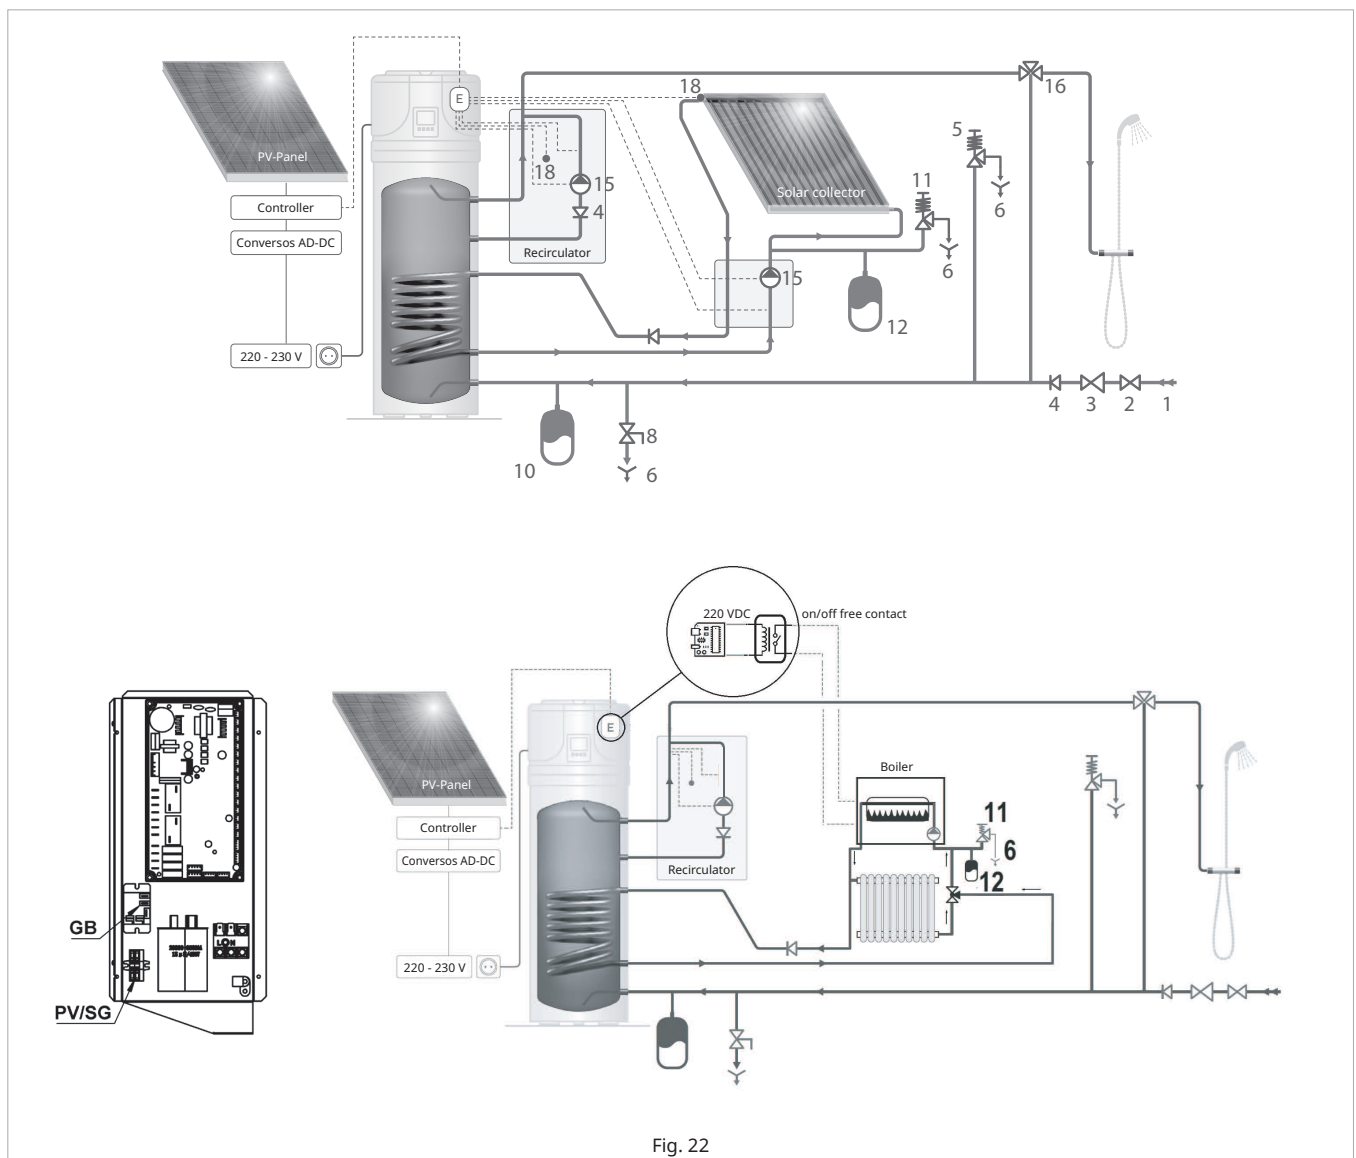

Fig. 22
- ⚠ Plastic pipes (PP) are permeable to oxygen. It is forbidden to connect the heat exchanger to system made by PP pipes as well as to open circulation system! Abusing this rule will lead to corrosion inside tube.
- ⚠ It is obligatory for the system installer to fit an 8-bar safety valve No5 on the cold water intake pipe (Fig. 22).
- ❗ The safety equipment for protection against over pressure must be operated regularly in order to remove limescale deposits and to check that it is not blocked (Fig. 22)
- ❗ The drain pipe No6, connected to the safety valve must be installed sloping continuously downwards and, in a place, where it is protected against the formation of ice (Fig. 22).
- ❗ An expansion vessel No10 (Fig.22) should be installed in order to absorb water expansion due to temperature variation. Pressure regulator No3 and expansion vessel should be calculated together by qualified person.
- ⚠ **The heat pump for the production of domestic hot water is capable of heating water up to more than 65°C. For this reason, as a protection against burns, it is necessary to install an automatic thermostat mixing equipment No16 to the hot water-pipe (Fig. 22)**